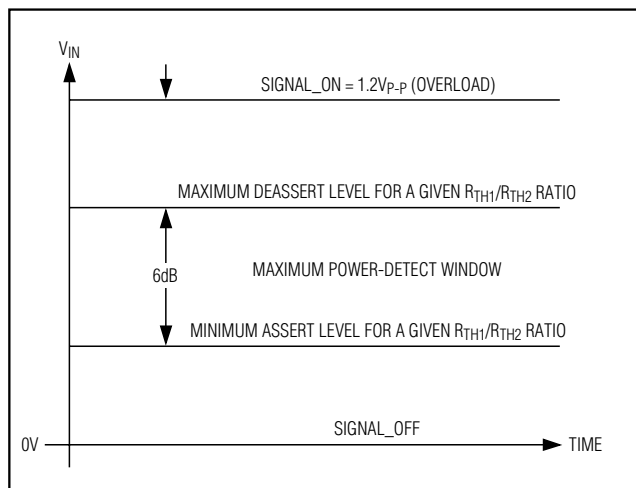

Figure 2B. LOS Deassert Threshold—Operating at Input Overload
**Note 9:** The signal at the input is switched between  $1.2V_{P-P}$  and Signal\_OFF as shown in Figure 2B.